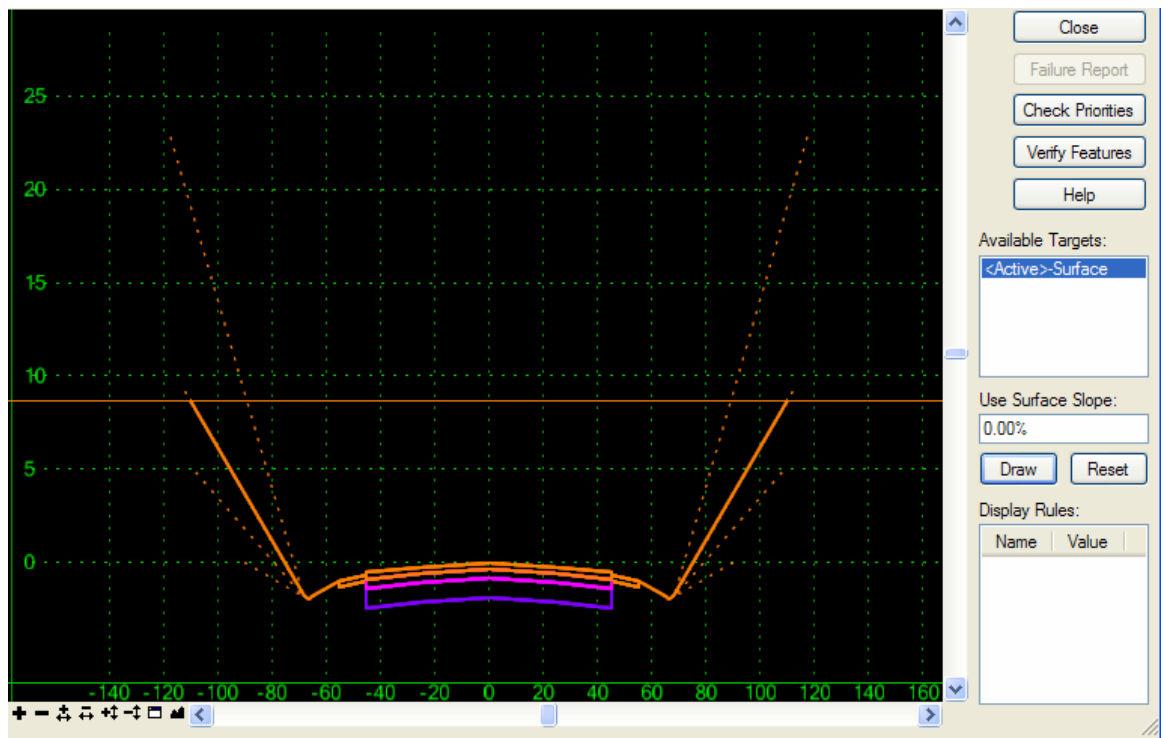

Figure 6-23 InRoads Test end Conditions Dialog Box
- P. Click on the Check priorities box within the test template interface window shown above in Figure 6-23.